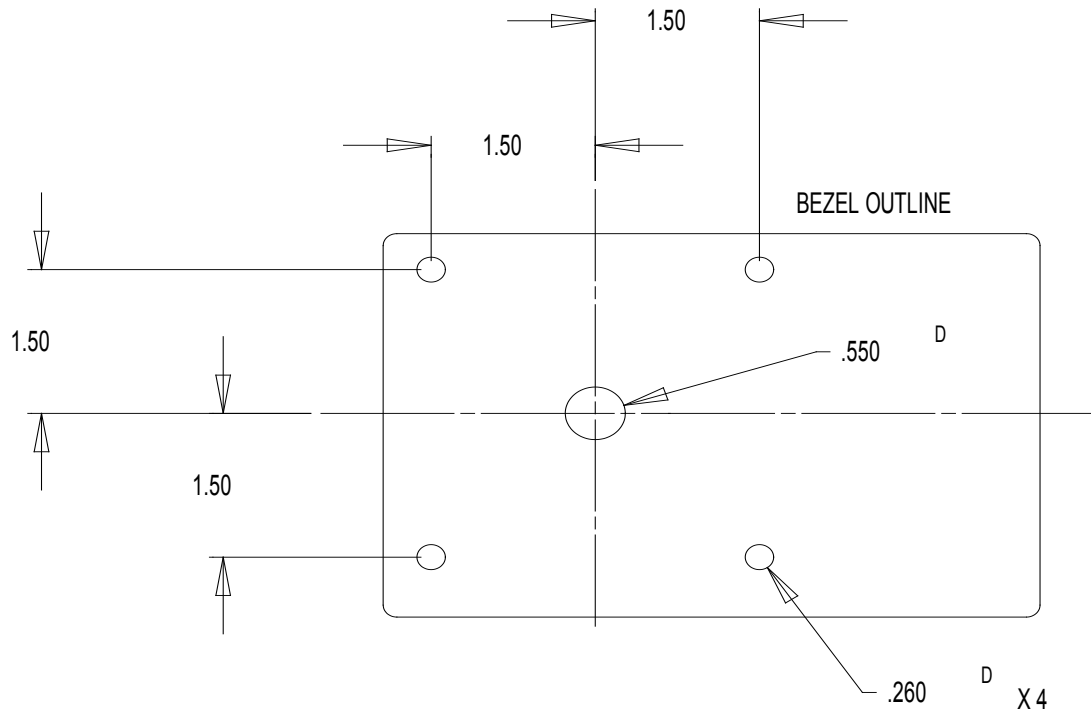

Figure 3. Deminsions for Mounting Holes
1. Drill one 9/16 inch center hole and four through holes for 1/4-28 screws to mount metering valve. (Refer to Figure 3.)